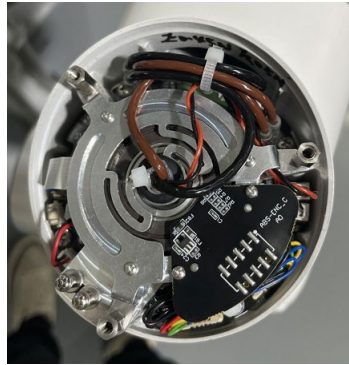

Figure 3-15 Reconnect the wires
- Insert the wire bundle through the wire guard. Then install the wire guard to the wire rack. After reconnecting the wire, use nylon zip ties to keep the wires at proper position as shown in Figure 3-15: